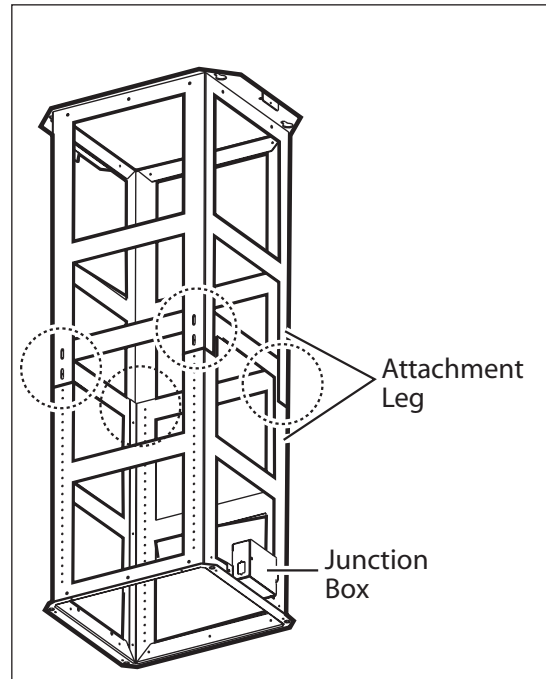

FIG.3
1. Adjust chimney mounting structure to E + 3/8" dimension as determined in installation height calculation on page 7. Use 2 screws per attachment leg, see Fig. 3.